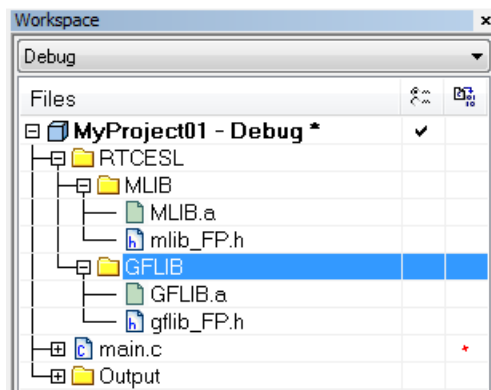

Figure 1-46. Project workspace
4. Click on the newly created node MLIB, and go to the main menu Project > Add Files... See Figure 1-46.
11. Now you will see the files added in the workspace. See Figure 1-46.